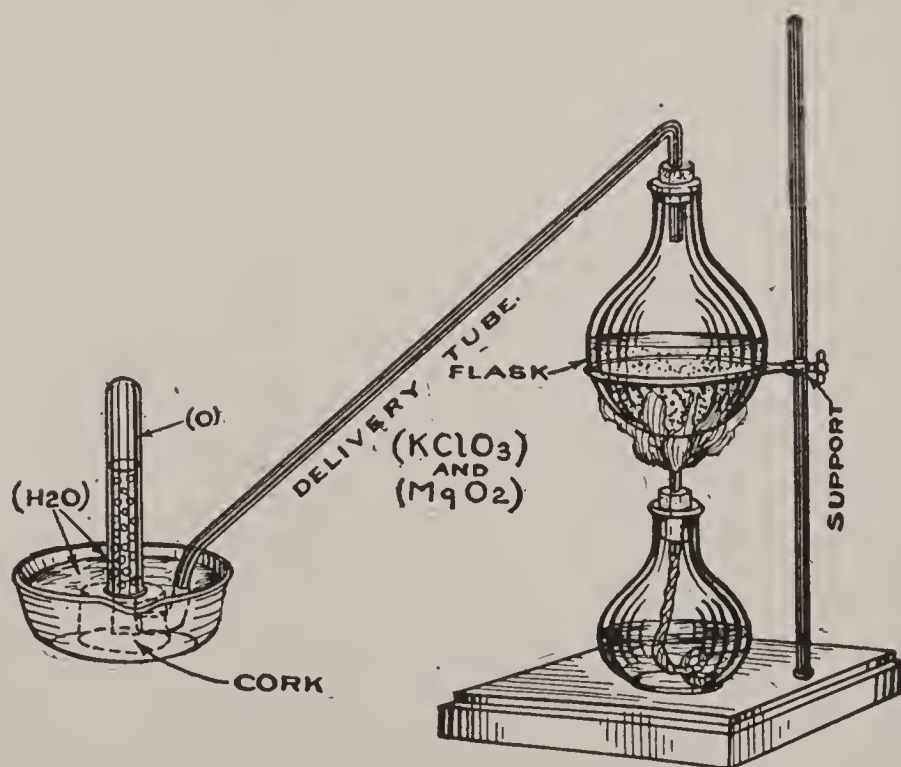

FIG. 42.—The Oxygen Apparatus Complete.
your lamp or burner under it, as shown in Fig. 42. Light the lamp and the heat will soon act on the manganese dioxide (MnO_2) and set the oxygen (O) of it free, so that it will pass through the delivery tube and up through the water to the top of the test tube. As it gathers there, it will push the water down, and in this way you will know how much oxygen there is in the tube.